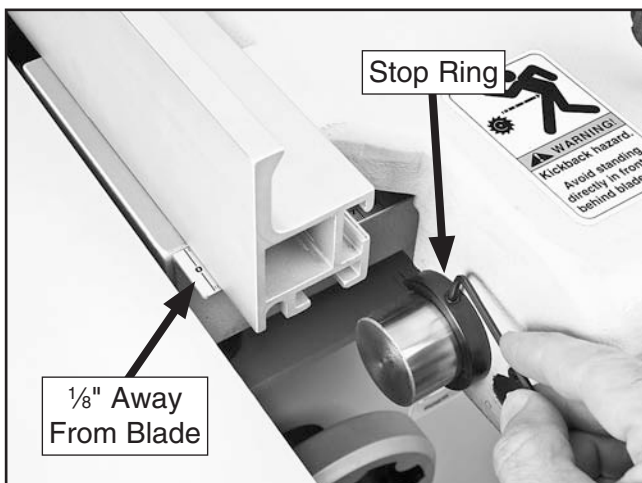

Figure 41. Installing the rip fence stop ring.
47. Back the rip fence away from the saw blade at least $\frac{1}{8}$ ", then slide the fence rail stop ring onto the rail and secure it against the fence body by tightening the pre-installed set screw, as shown in **Figure 41**.